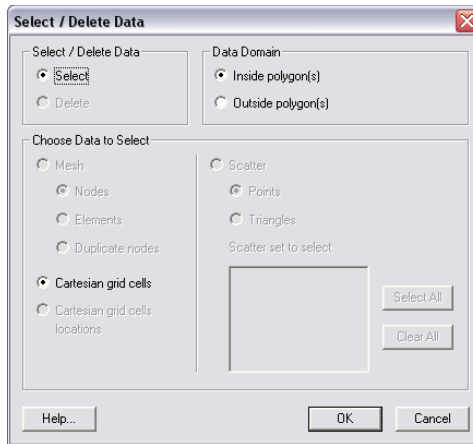

Figure 8.4.12. Options for selecting and deleting data from Mesh, Cartesian Grids, and Scattersets using polygons.
3. To select the cells within the polygon, next, with the polygon selected, go to *Feature Objects|Select/Delete Data*, and select *select, Cartesian Grid Cells, and Inside Polygon* (Figure 8.4.12).